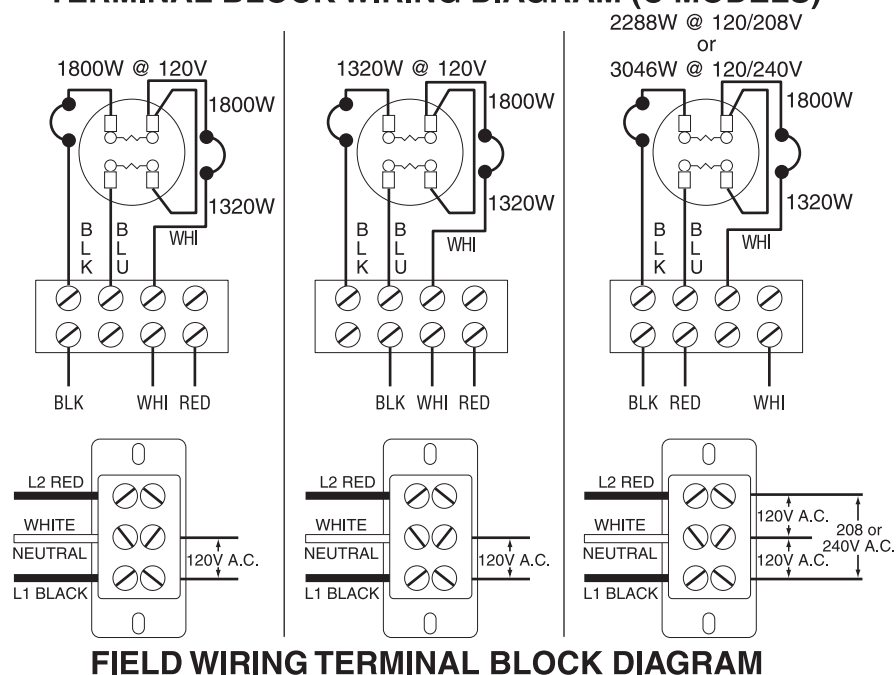

FIG. 14 TANK HEATER TERMINALS
17. Refer to Fig.14 when reconnecting the tank heater wires.